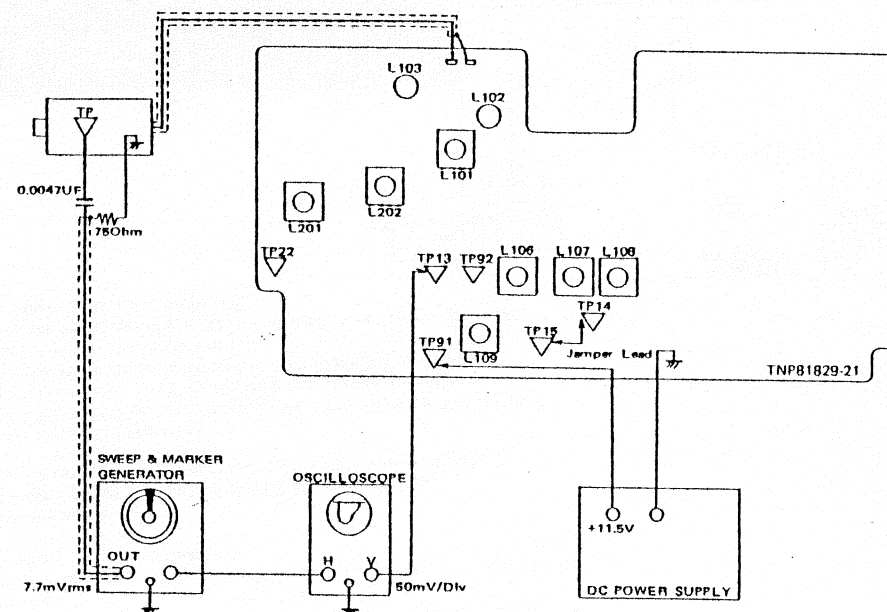

Fig. 14
2. Connect the jumper lead between TP14 and TP15 as shown in Fig. 14